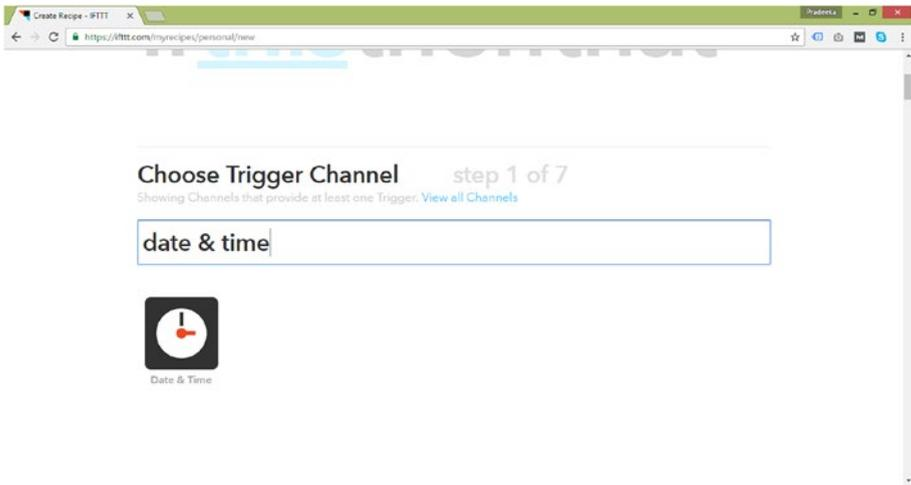

Figure 8-12. The Choose Trigger Channel page
4. Search for **date & time** and click the **Date & Time** icon, as shown in Figure 8-12.